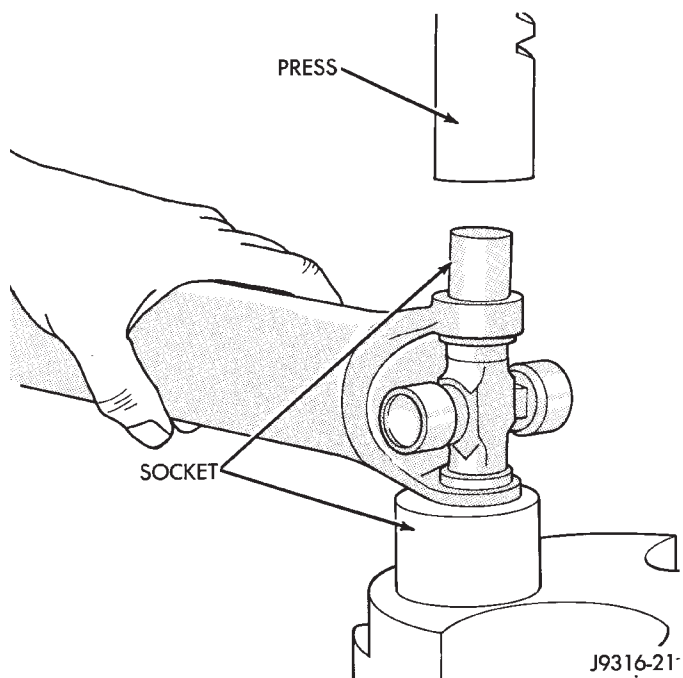
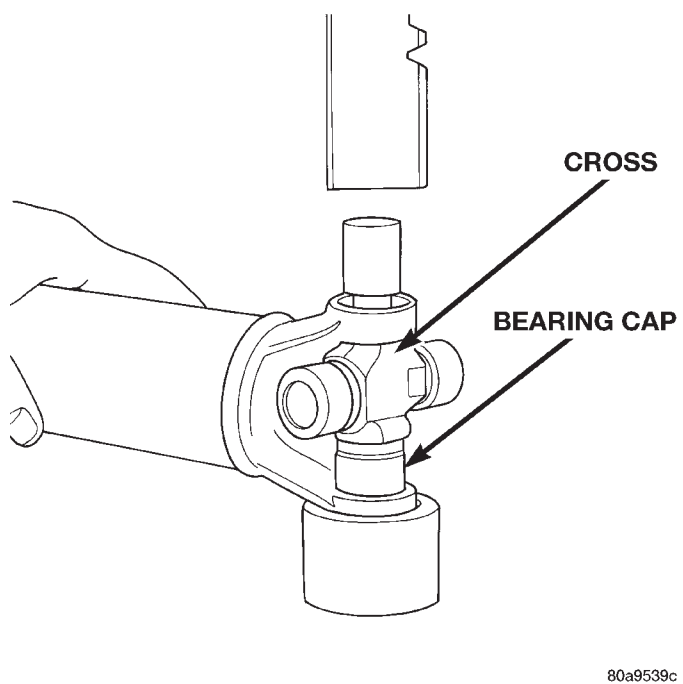

Fig. 19 Press Out Bearing
Fig. 20 Press Out Remaining Bearing
- (4) Set the yoke in an arbor press or vise with a socket whose inside diameter is large enough to receive the bearing cap positioned beneath the yoke.
- (5) Position the yoke with the grease fitting, if equipped, pointing up.
- (6) Place a socket with an outside diameter smaller than the upper bearing cap on the upper bearing cap and press the cap through the yoke to release the lower bearing cap (Fig. 19).
- (7) If the bearing cap will not pull out of the yoke by hand after pressing, tap the yoke ear near the bearing cap to dislodge the cap.
- (8) To remove the opposite bearing cap, turn the yoke over and straighten the cross in the open hole. Then, carefully press the end of the cross until the remaining bearing cap can be removed (Fig. 20).